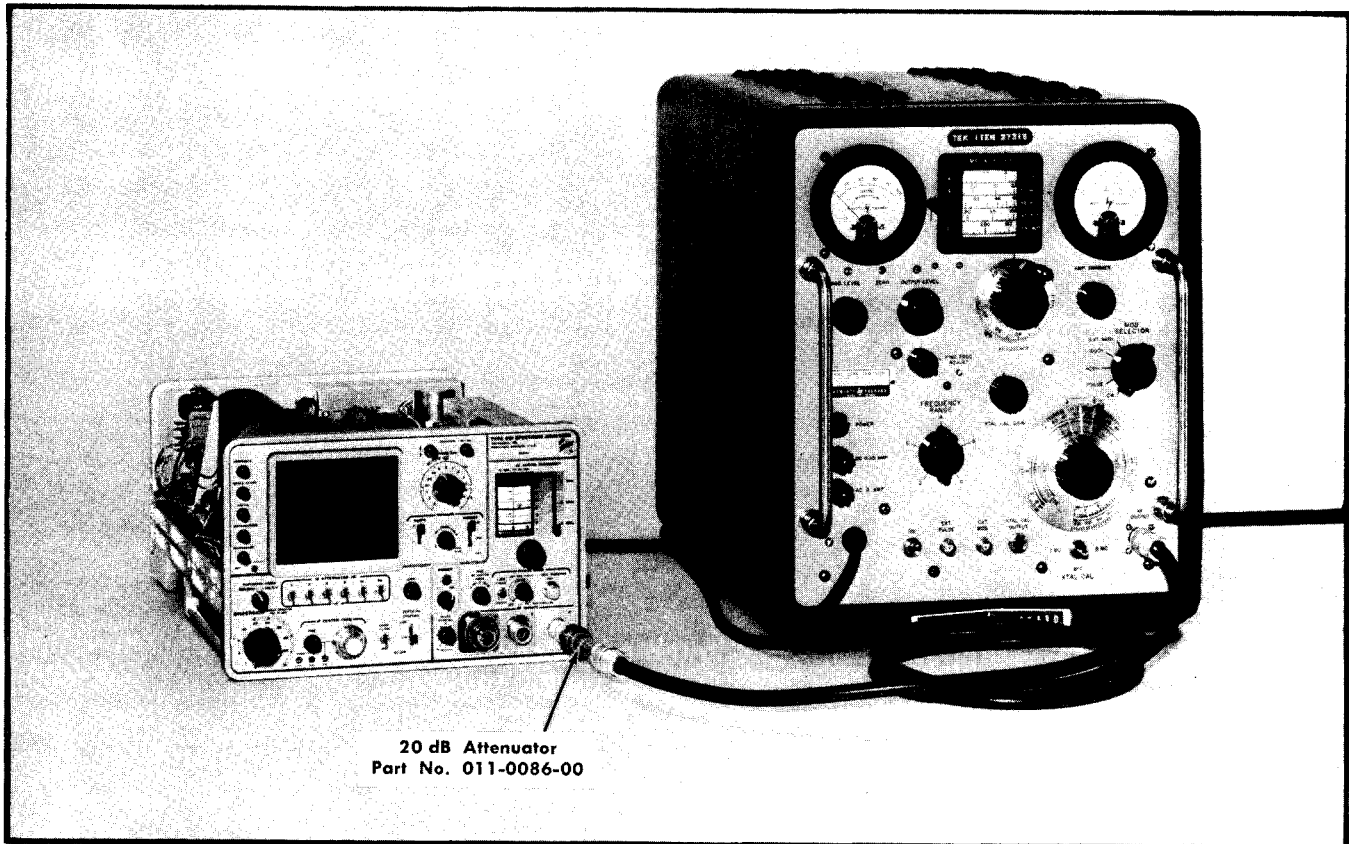
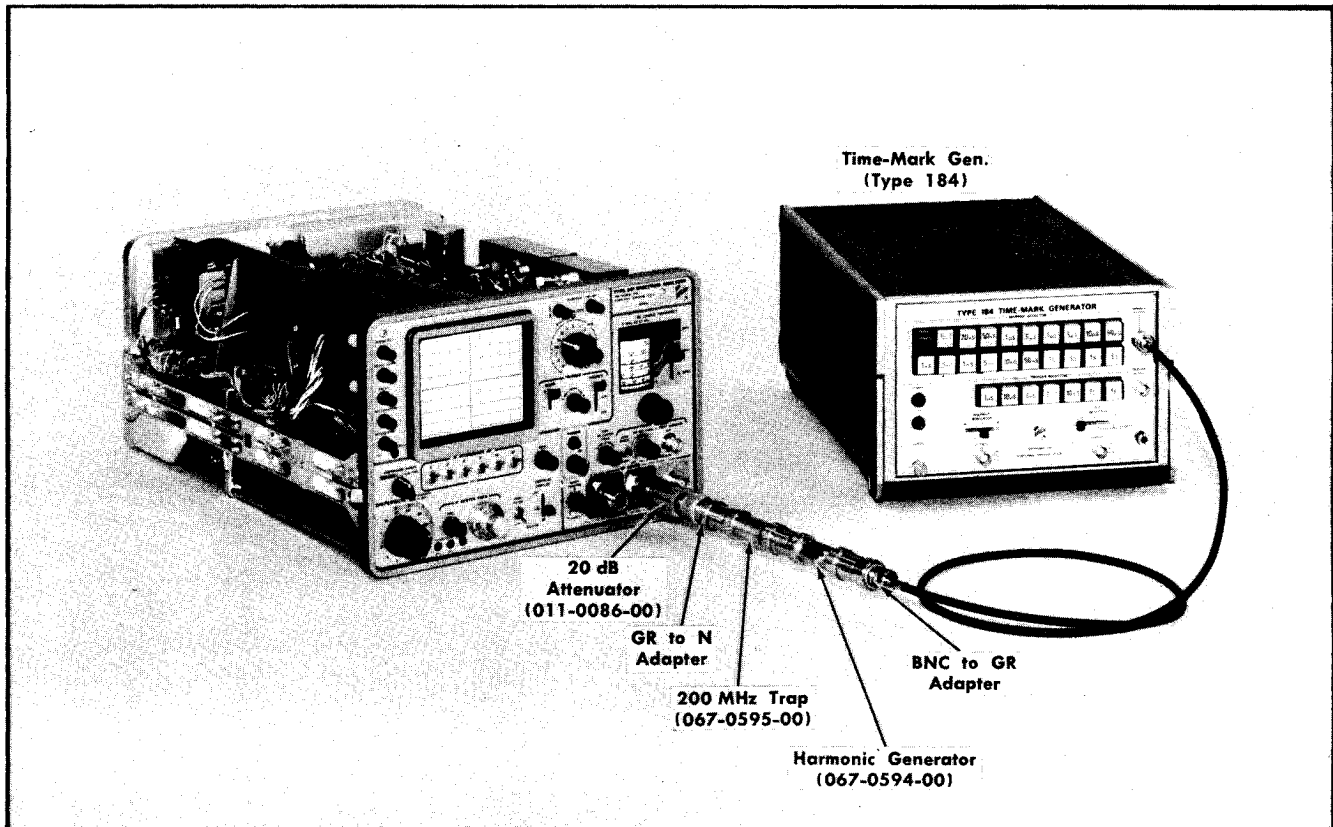

Fig. 6-41. Typical equipment setup to check response flatness, sensitivity, frequency calibration and phase lock operation.
Fig. 6-45. Alternate equipment setup that will check dial accuracy, mixer and oscillator operation, and LO phase lock effectiveness.
a. Equipment setups are shown in Fig. 6-41 through 6-43. Fig. 6-45 shows the setup for the alternate procedure to check dial accuracy (step 38 B),
a. Equipment setup is shown in Fig. 6-45.